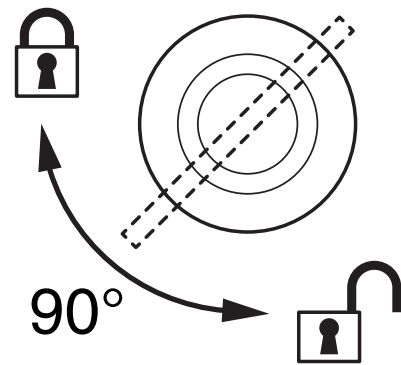

Figure 6: Locking quarter-turn fasteners
3. See Figure 6. Make sure that quarter-turn fasteners are turned a full 90° to the fully locked position.